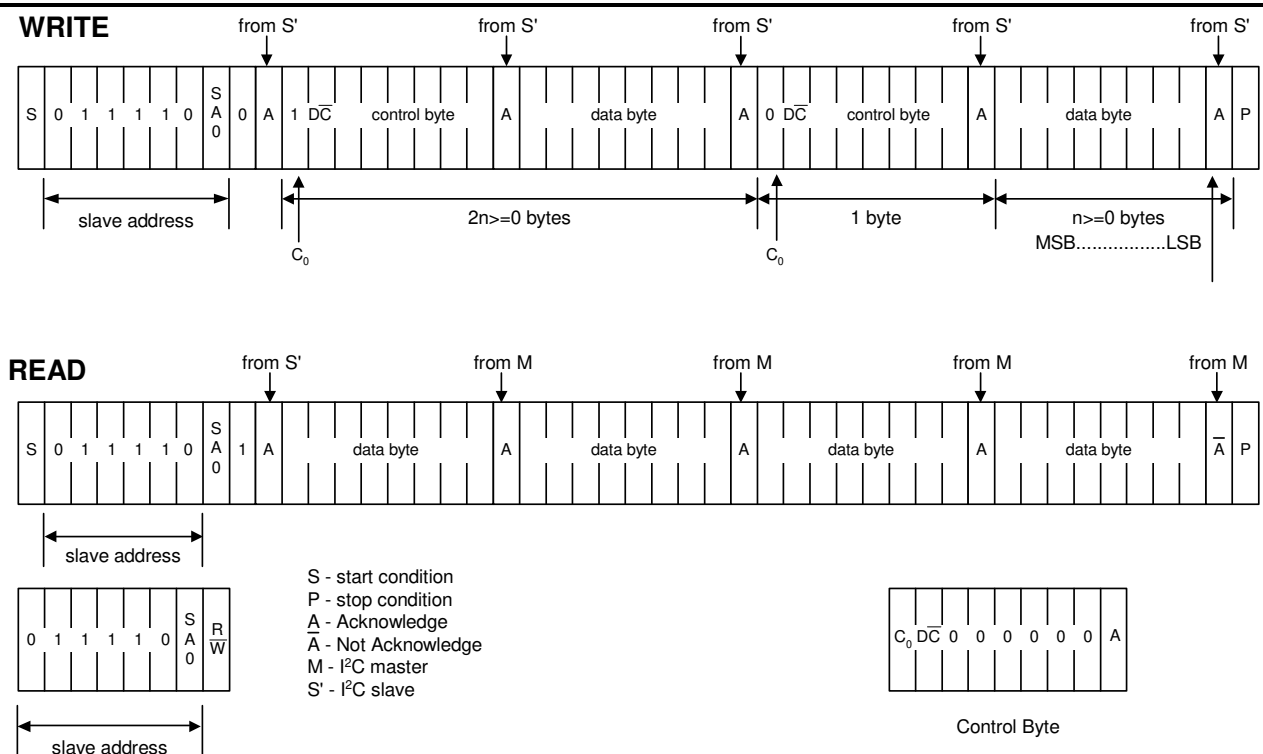

Figure 7 I²C Protocol
The SH1106 supports both read and write access. The $\overline{R/\overline{W}}$ bit is part of the slave address. Before any data is transmitted on the I²C-bus, the device that should respond is addressed first. Two 7-bit slave addresses (0111100 and 0111101) are reserved for the SH1106. The least significant bit of the slave address is set by connecting the input SA0 to either logic 0(VSS) or 1 (VDD1). The I²C-bus protocol is illustrated in Fig.7. The sequence is initiated with a START condition (S) from the I²C-bus master that is followed by the slave address. All slaves with the corresponding address acknowledge in parallel, all the others will ignore the I²C-bus transfer. After acknowledgement, one or more command words follow which define the status of the addressed slaves. A command word consists of a control byte, which defines C_0 and $\overline{D/\overline{C}}$ (note1), plus a data byte (see Fig.7). The last control byte is tagged with a cleared most significant bit, the continuation bit C_0 . After a control byte with a cleared C_0 -bit, only data bytes will follow. The state of the $\overline{D/\overline{C}}$ -bit defines whether the data-byte is interpreted as a command or as RAM-data. The control and data bytes are also acknowledged by all addressed slaves on the bus. After the last control byte, depending on the $\overline{D/\overline{C}}$ bit setting, either a series of display data bytes or command data bytes may follow. If the $\overline{D/\overline{C}}$ bit was set to '1', these display bytes are stored in the display RAM at the address specified by the data pointer. The data pointer is automatically updated and the data is directed to the intended SH1106 device. If the $\overline{D/\overline{C}}$ bit of the last control byte was set to '0', these command bytes will be decoded and the setting of the device will be changed according to the received commands. The acknowledgement after each byte is made only by the addressed slave. At the end of the transmission the I²C-bus master issues a stop condition (P). If the $\overline{R/\overline{W}}$ bit is set to one in the slave-address, the chip will output data immediately after the slave-address according to the $\overline{D/\overline{C}}$ bit, which was sent during the last write access. If no acknowledge is generated by the master after a byte, the driver stops transferring data to the master.